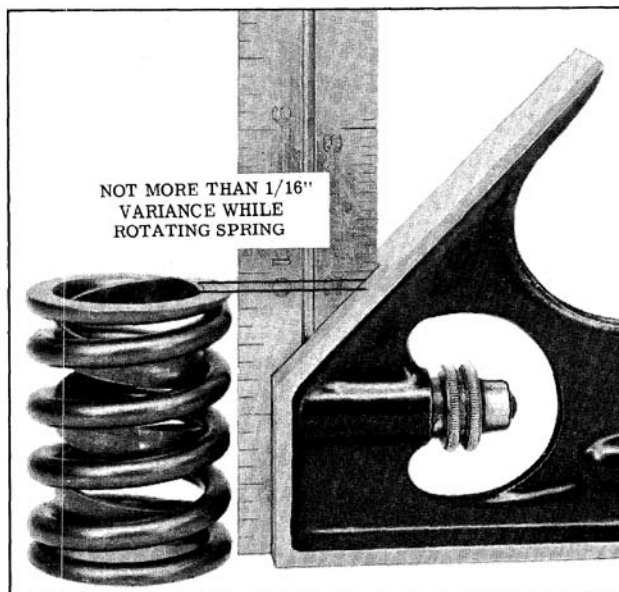

Fig. 3-60 Valve Spring Checking
- a. Occasionally this noise can be eliminated by rotating the valve spring and valve. Crank engine until noisy valve is off its seat. Rotate spring. This will also rotate valve. Repeat until valve becomes quiet. If correction is obtained, check for an off square valve spring. If spring is off square more than 1/16" in free position, replace spring. (Fig. 3-60)